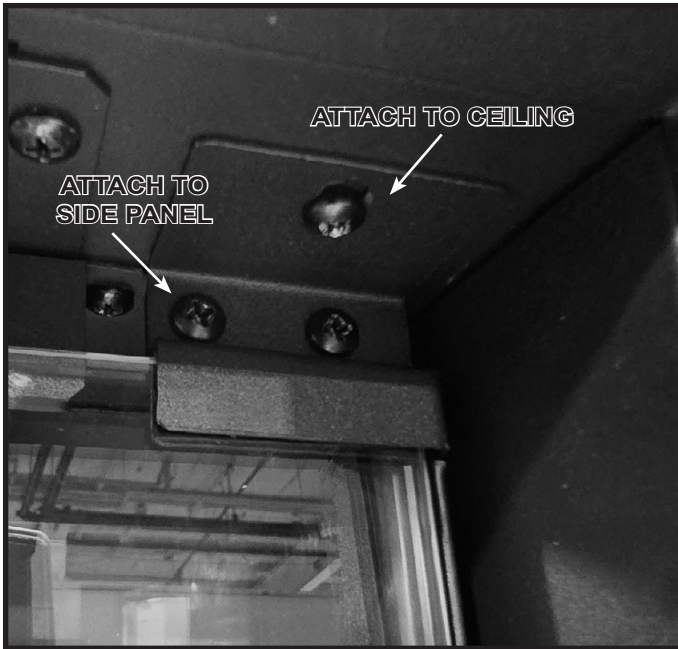

Figure 4.19 Glass Removal and Installation
3. Install the two (2) glass brackets located in the hardware bag using the three (3) M4x8 screws provided on each side. See Figure 4.19.